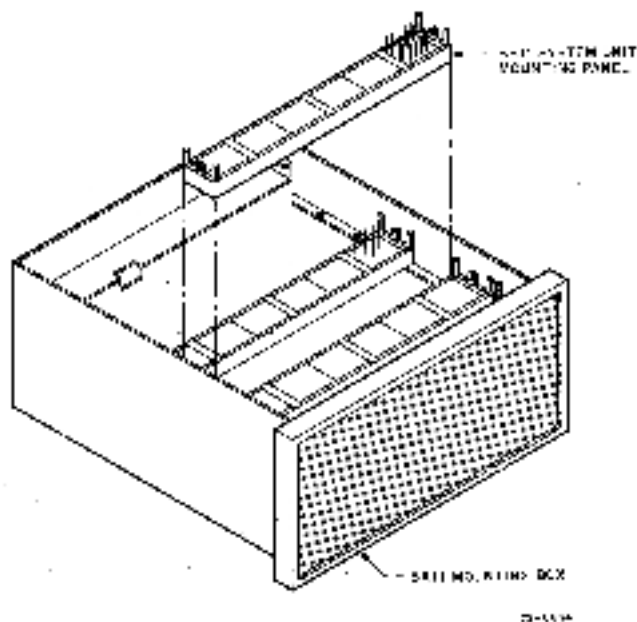

Figure 3-1 Installation of DECkit11-M System Unit Mounting Panel
1. Mount the DECKit (with modules previously installed) into the vacant system unit location and secure with the two special knurled screws supplied with the kit (Figure 3-1).